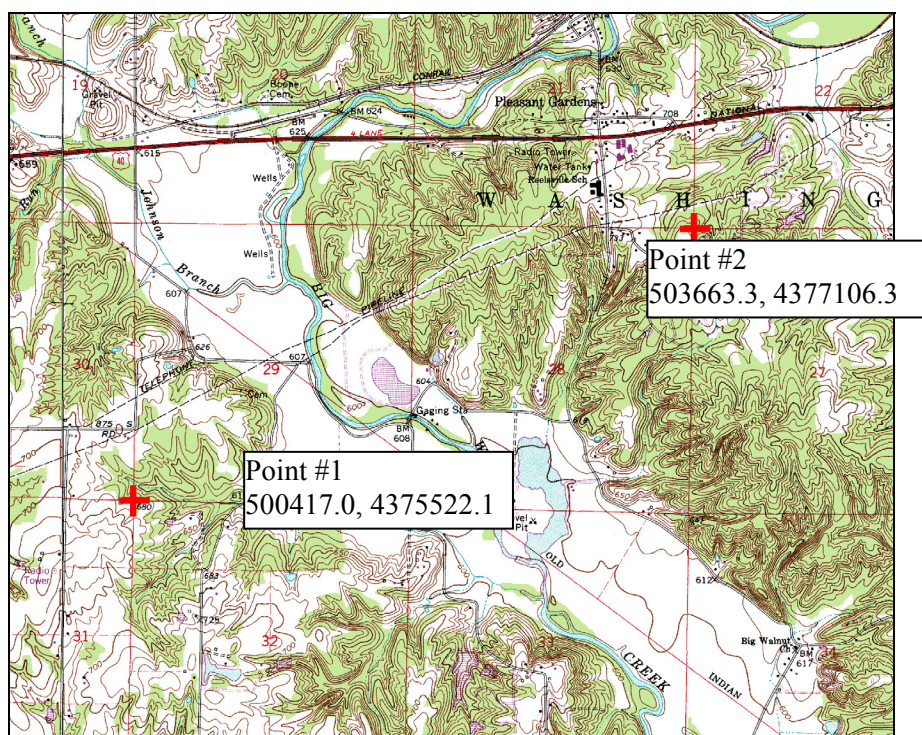

Figure 2. Image Registration
7. Position the red crosshairs as shown in Figure 2 below and enter the coordinates.